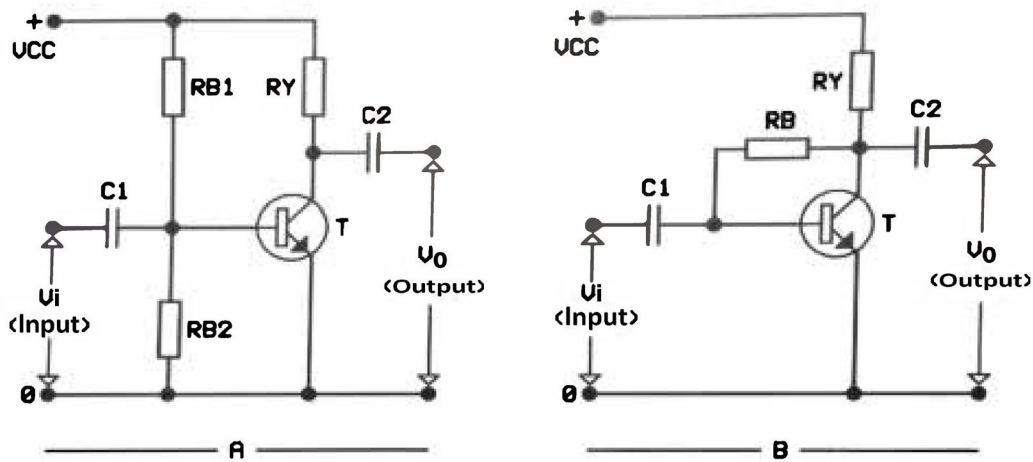

Figure 1: Emitter grounded power amplifiers
Transistors are the active element of an electrical circuit and divided into operating classes. These classes are based on the proportion of each input cycle (conduction angle) during which an amplifying device passes current. Power amplifier circuits (output stages) are named as A, B, AB, C classes and D, E classes respectively for analog designs and switching designs. The operation class, the operating point (Q) on the load curve of the transistor is determined by the base pole of the transistor. Power amplifiers circuits can be easily constructed with a BJT (Bipolar Junction Transistor) in various methods. Most common used methods are implemented with an emitter grounded transistor which is shown in Figure 1. For the circuit in Figure 1.A, base terminal voltage of the transistor can be calculated through the voltage divider that consist of RB1 and RB2 resistors. This type of circuits is called as
'Fixed Base Bias Circuit', because the transistors base current, I_B remains constant for given values of V_{CC} , and therefore the transistors operating point must also remain fixed. For the circuit in Figure 1.B, the collector to base feedback configuration ensures that the transistor is always biased in the active region regardless of the value of Beta (β). This type of circuits is called as 'Collector Feedback Bias Circuit'. In this laboratory hour, above-mentioned 'Fixed Base Bias Circuit' will be used to examine different classes of power amplifiers.